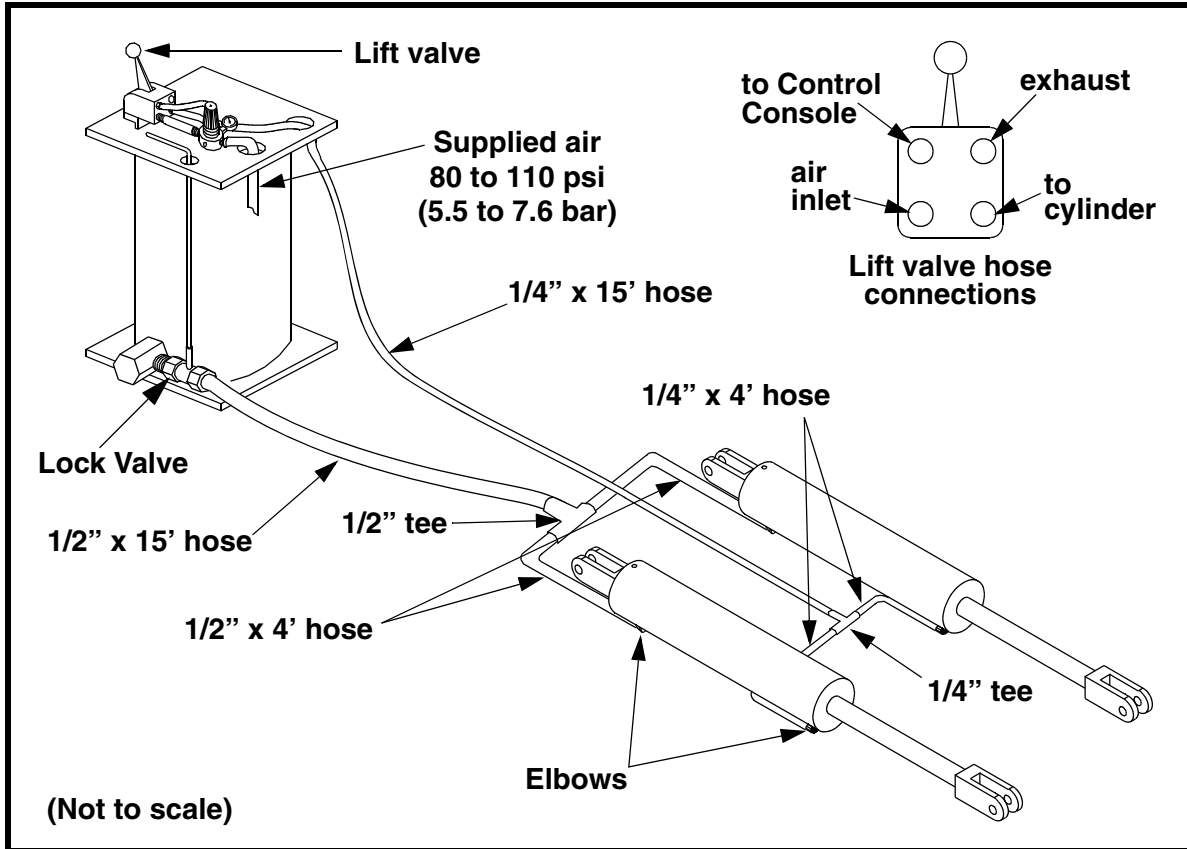

Figure 3. Hose Connections for Models SBL-24, SBL-30, and SBLR-18
2. Install two 90° street elbows into each SBL-24, SBL-30, and SBLR-18 lift cylinder (see Figure 3).
3. Connect hoses to lift cylinders and control console as shown in Figure 3. Route hoses *under* tracks. Make sure hoses are not pinched or kinked.
See Figures 3 and 4. Run a filtered, 1/4-in. air line (supplied by the customer) from the air supply to the regulator on the control console.